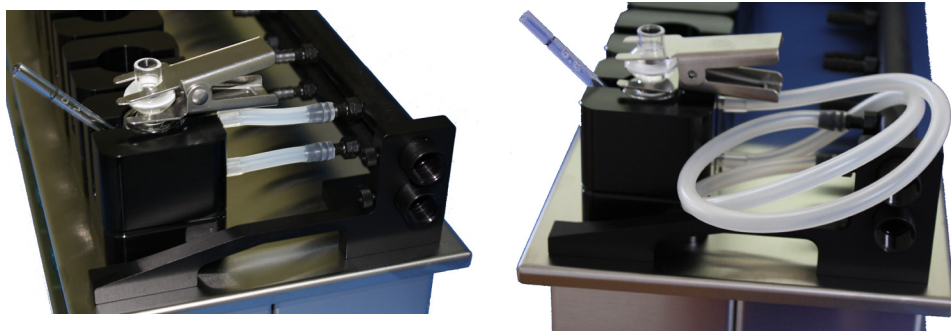

Figure 2 - Connecting cells to the manifolds - (left to right) Very short sections of latex tubing, and long lengths of tubing.
Place the Franz Cells into the cell holders of the stirrer. The barbed fittings of the manifolds can be connected with very short sections of the latex tubing supplied with the stirrer. Or, long lengths of tubing (as shown in Figure 2 below) may be used, which is probably the preferred method. In either case the cells need to be removed from the cell holders from time to time for cleaning or to remove bubbles from beneath the membrane. Quik-Disconnect® connectors may be purchased separately to facilitate frequent removal and replacement of the cells.
4. A roll of 3/16" ID soft silicone tubing, 3 feet for each cell, 27 feet for 9-station stirrers, that the user will connect the Franz Cells to the manifolds with, either the straight short direct way or with the large loops (See Figure 2 photo).